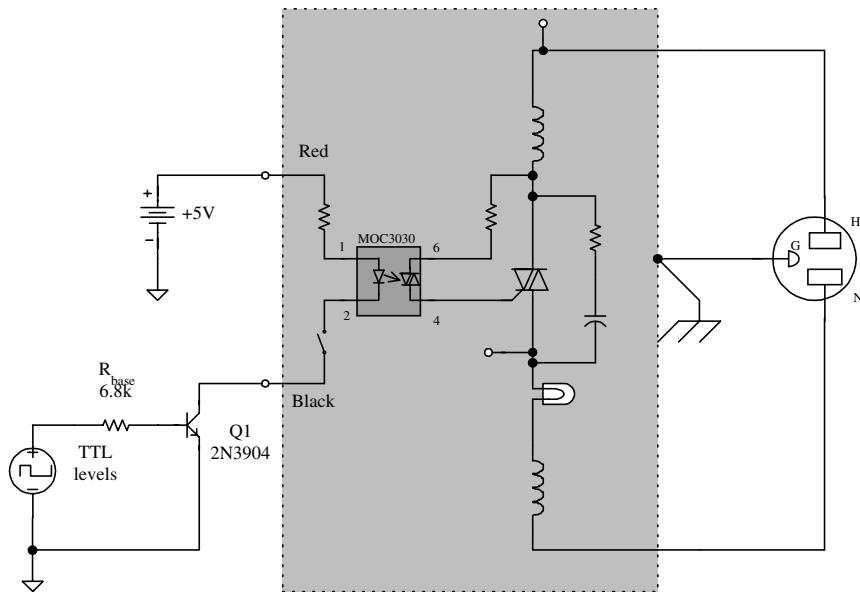

Figure 8-41 Time proportional zero crossing firing schematic
1. Build the circuit in Figure 8-41.